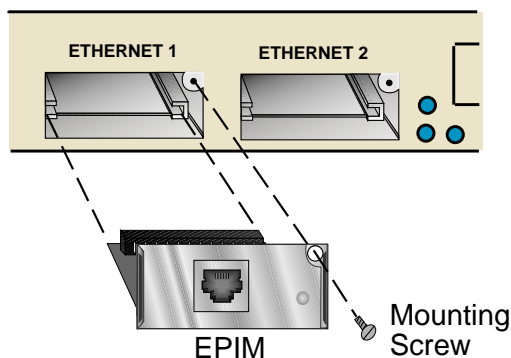

Figure 11 Installing an EPIM
3. Slide your new EPIM into place, making sure the connectors on the rear of the module and inside the CSX400 attach properly as shown in **Figure 11**.